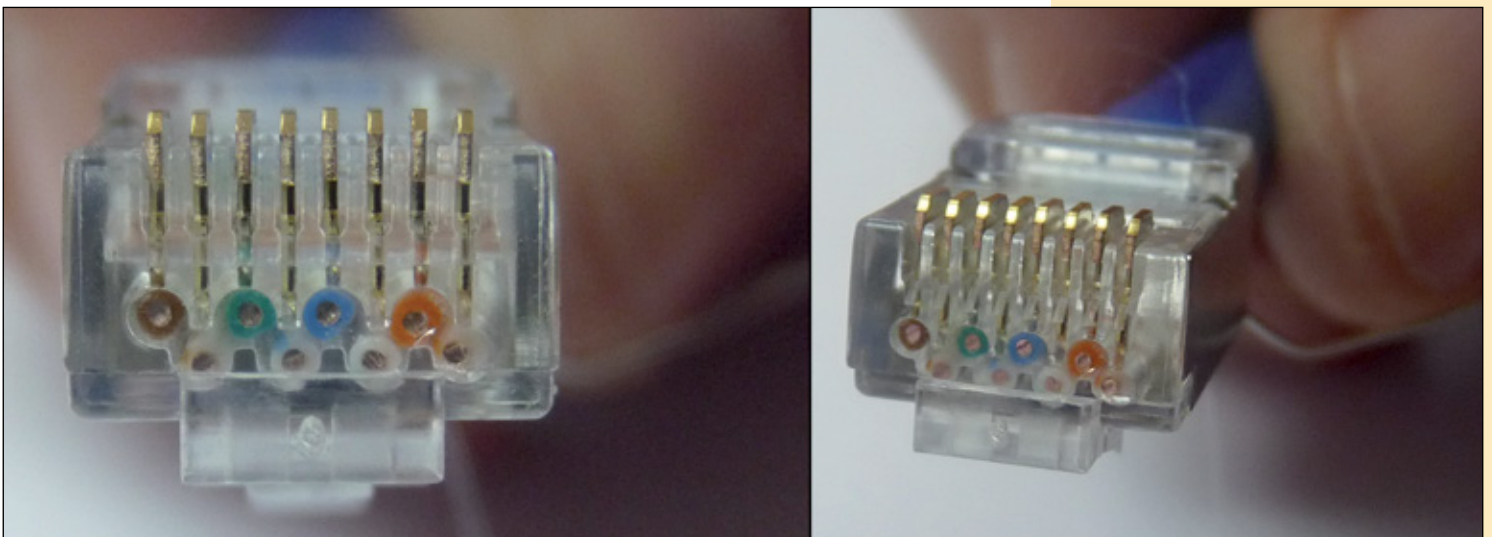

Figure 20
- 15 Check that all the individual conductor tips reach the extreme of the Main Body as shown in the **Figure 20**.